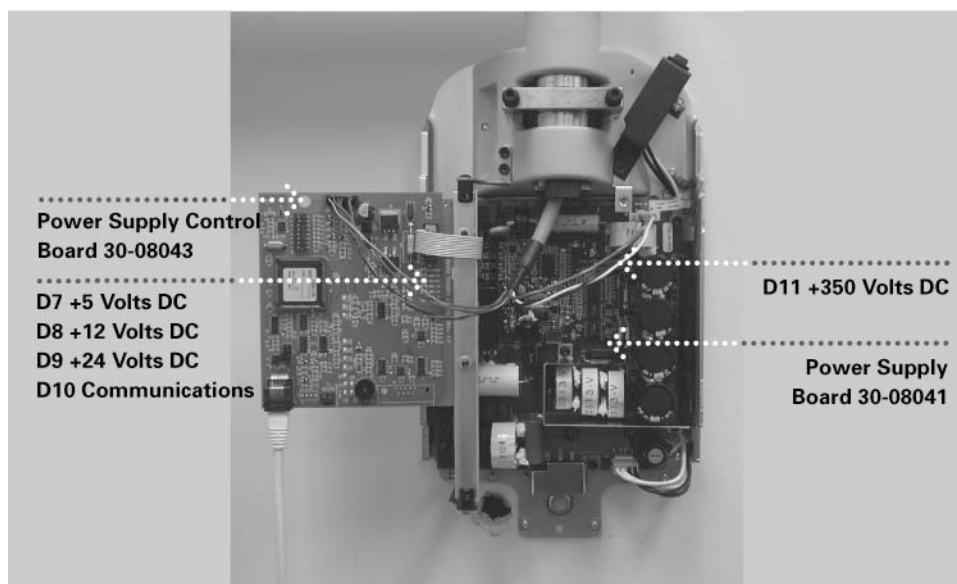

Figure 27
1. On Power Supply Board 30-08041, shown in Figure 27, verify that LED D11 is illuminated. The illuminated LED verifies that appropriate supply voltages are present.
2. On the Power Supply Control Board 30-08043, shown in Figure 27, verify that LEDs D7 (+5VDC), D8 (+12VDC) and D9 (+24VDC) are illuminated and LED D10 is flashing. Each illuminated LED verifies that appropriate supply voltages are present. If the LEDs are not illuminated, refer to the “No Operator Display but Power Switch is On” procedure in the Troubleshooting section of this manual.